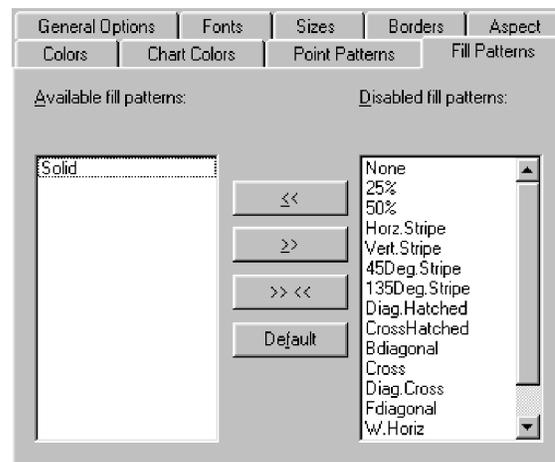

Figure 8.21 Graph Options dialog box: Fill Patterns tab
- 2 In the **Graph Options** dialog box, click the **Fill Patterns** tab (Figure 8.21).